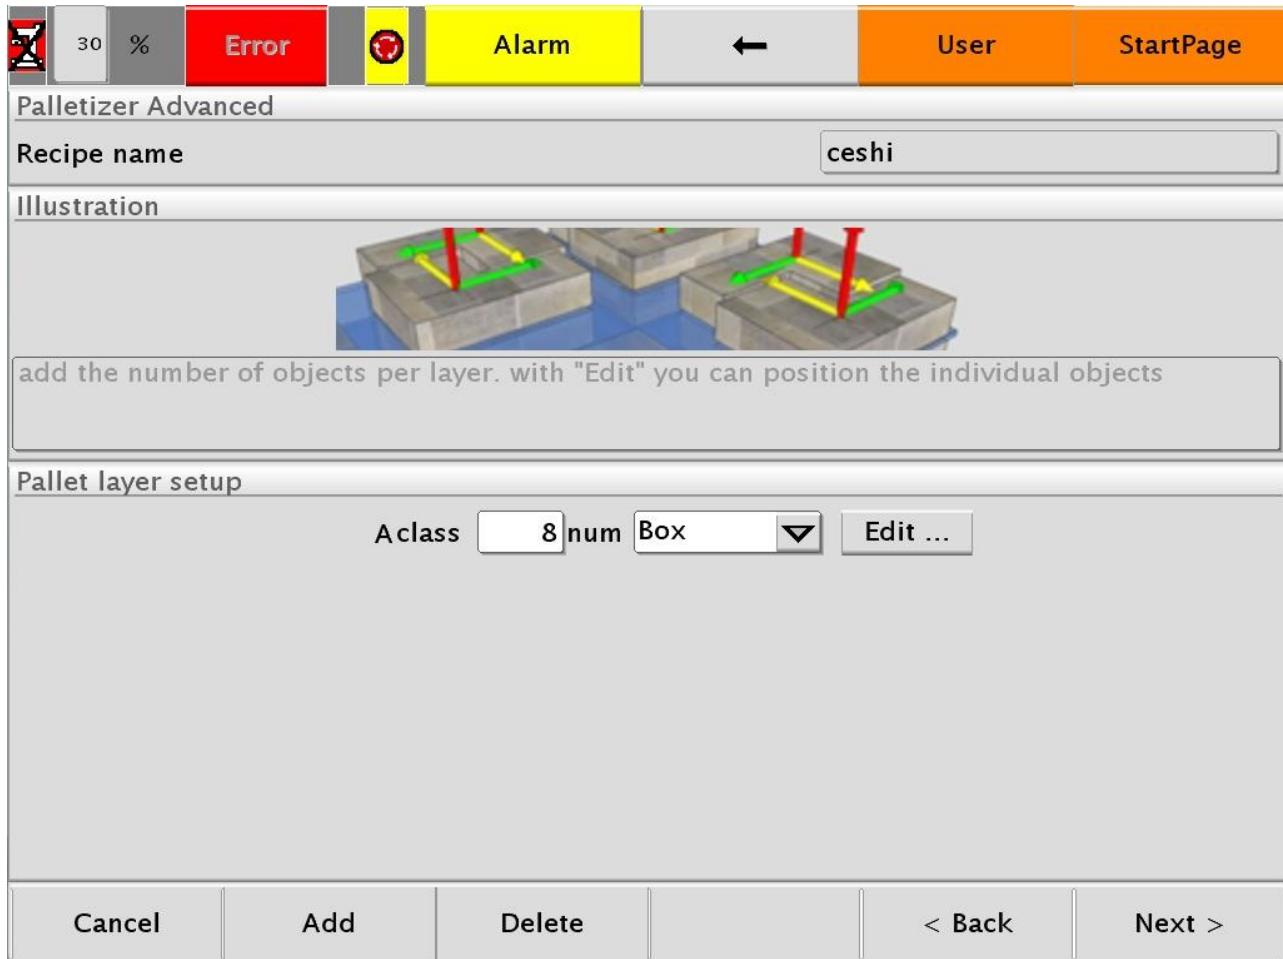

Figure 34
(5) Click "Next" pop-up as shown in **Figure 34** below.
This page allows you to set the number of pallets in a single layer and the palletizing method in a single layer. The user can create multiple types according to the actual needs, by clicking on "Add" and then on "Edit" the current type can be laid out. The following **figure 34** shows this.